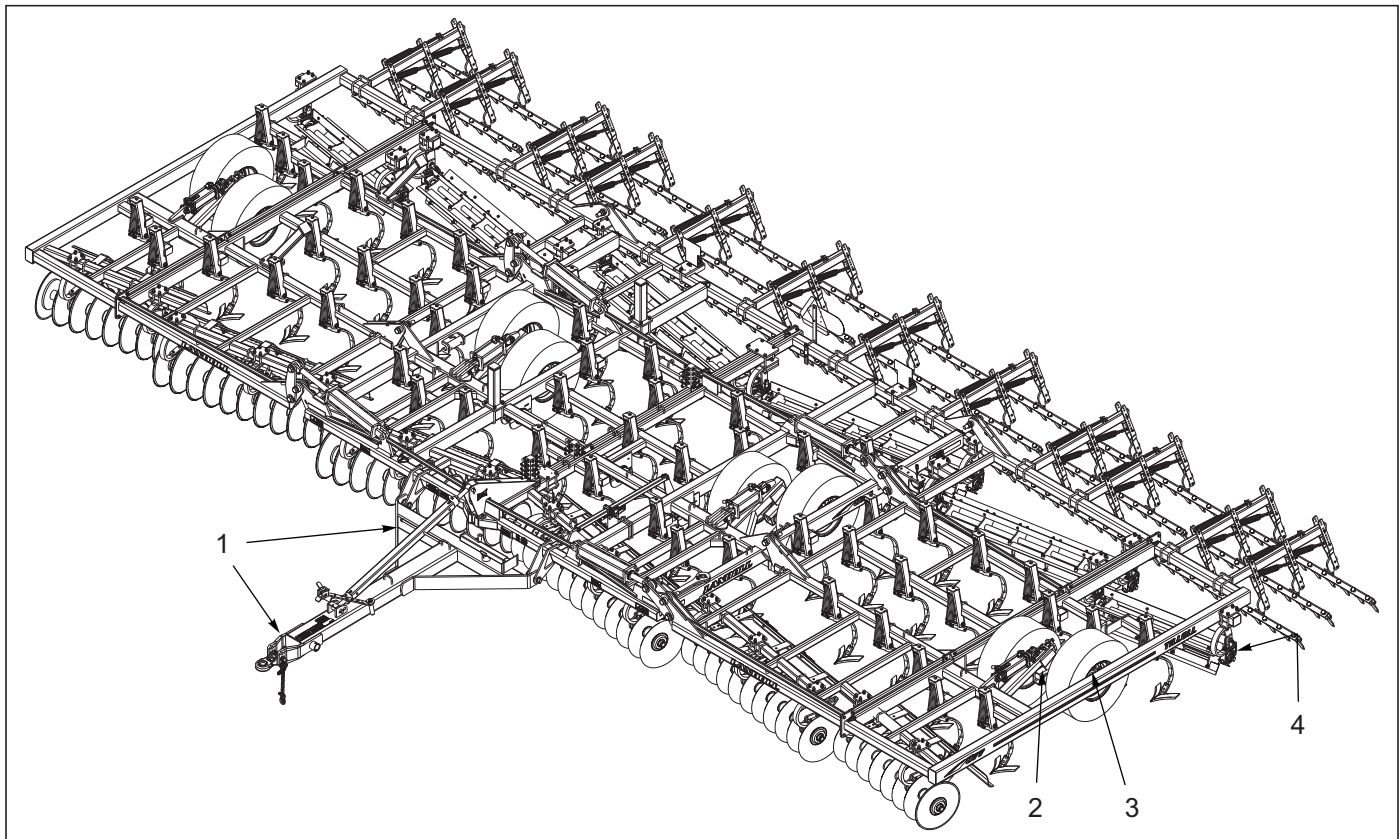

Figure 5-3: Lubrication Schedule
1. A proper maintenance schedule will insure a long operating life and peak performance. Performing the following lubrication will ensure maximum operating life of the 877 Tilloll *See Table 5-1 and See Figure 5-3.*
- f. Lubricate each point of the machine as stated in ***See Figure 5-3.***